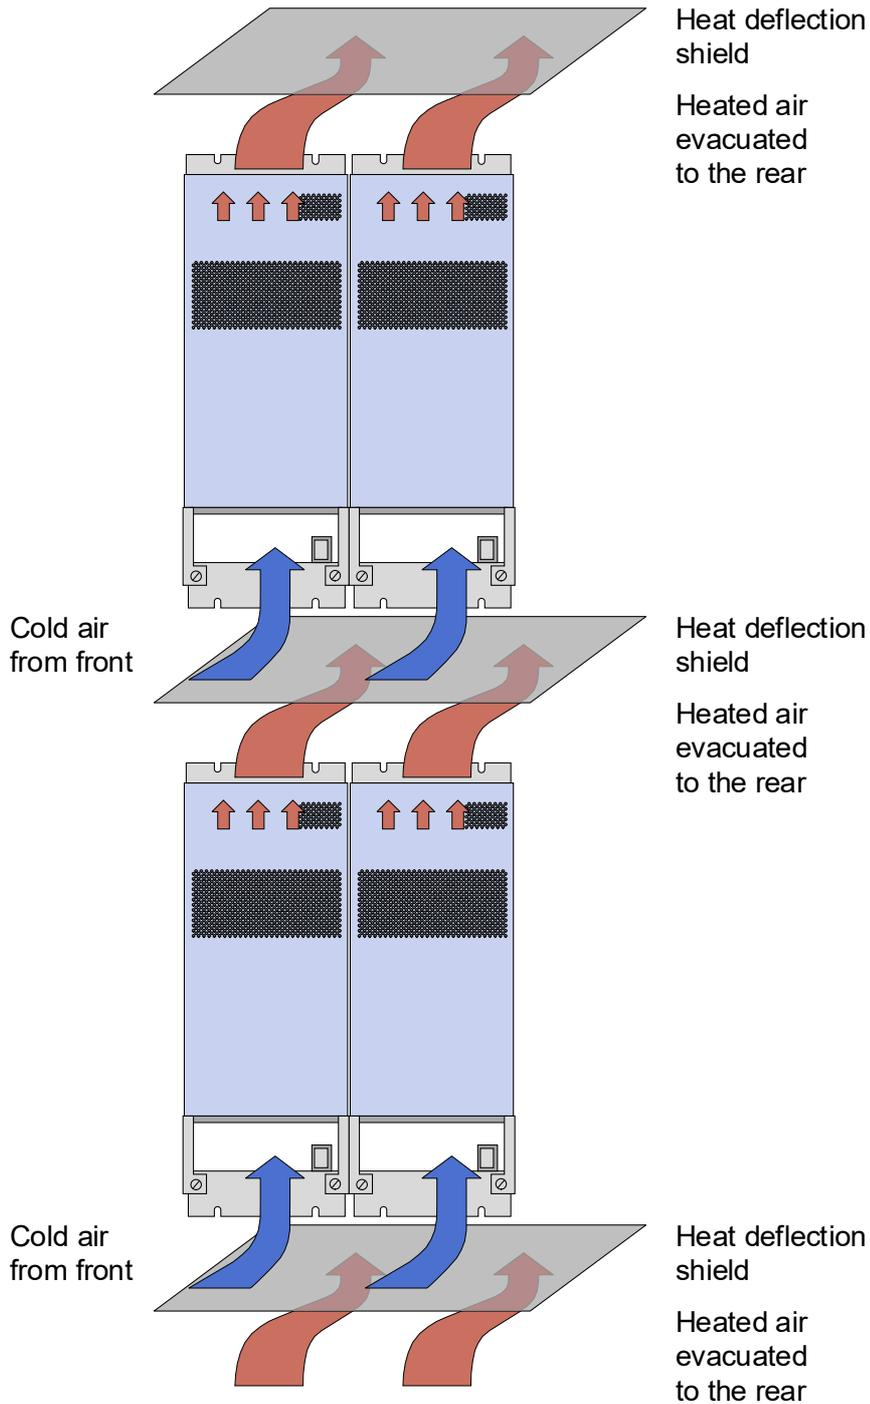

Figure 4: Installation of stacked FOX612 subracks
- If you stack equipment, install heat deflection shields between the subracks (refer to Figure 4).